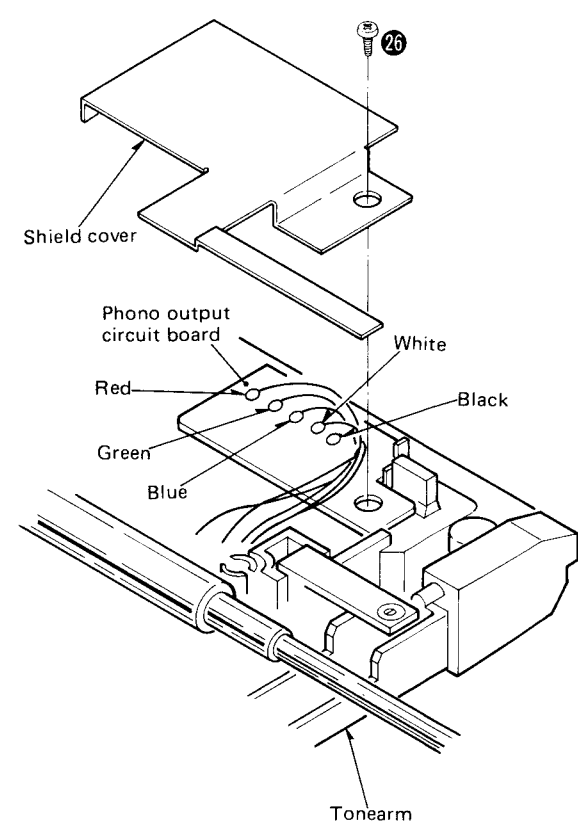

Fig. 13
- 2. Remove the shield cover setscrew (Fig. 13 : 26) and shield cover.